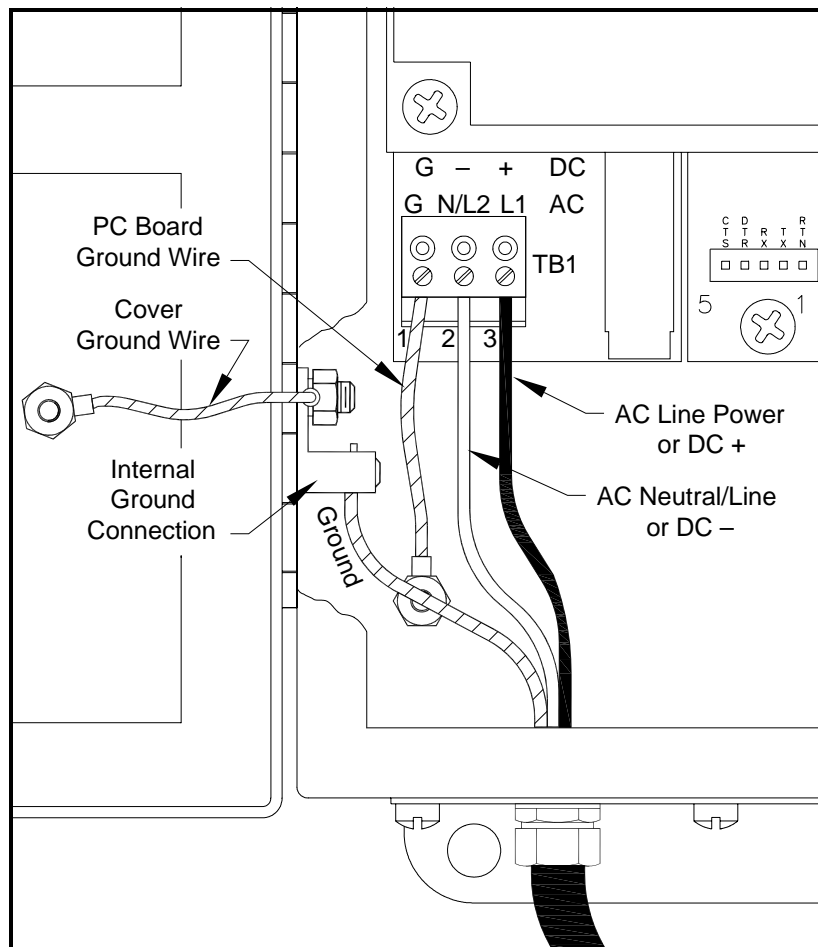

Figure 1-3: Line Power Connections
Refer to *Figure 1-3* on the next page or *Figure 1-10* on page 1-20 to locate terminal block TB1 and connect the line power as follows:
3. Connect the ground lead to the internal ground connection located on the side panel of the enclosure (see *Figure 1-3* below).
4. Connect the neutral AC power lead (or the negative – DC power lead) to TB1-2 and the line AC power lead (or the positive DC power lead) to TB1-3 as shown in *Figure 1-3* below.